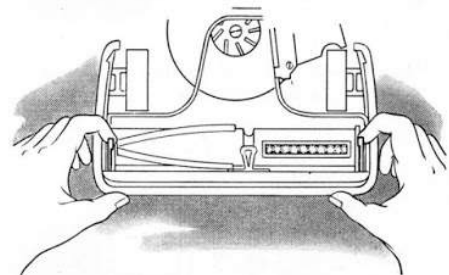

FIG. 81—Latch levers used to support the agitator or brush roll on later models
3. Figure 81 shows the type of latch levers located in the ends of the nozzle to support the agitator.